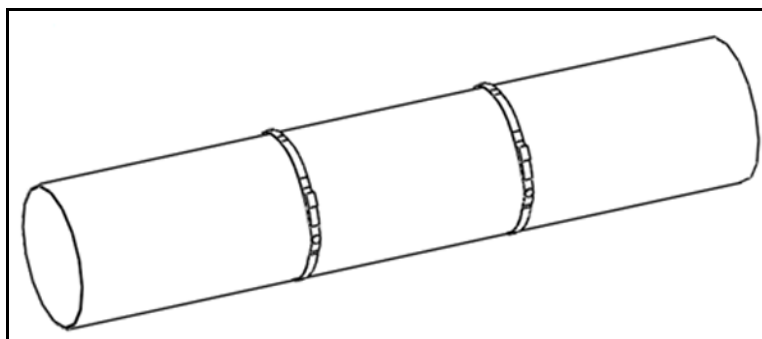

Figure 10: Mounting Straps Installed on Pipe
- b. Install the two mounting straps on the pipe about 12 in. (30 cm) apart (see Figure 10 below).